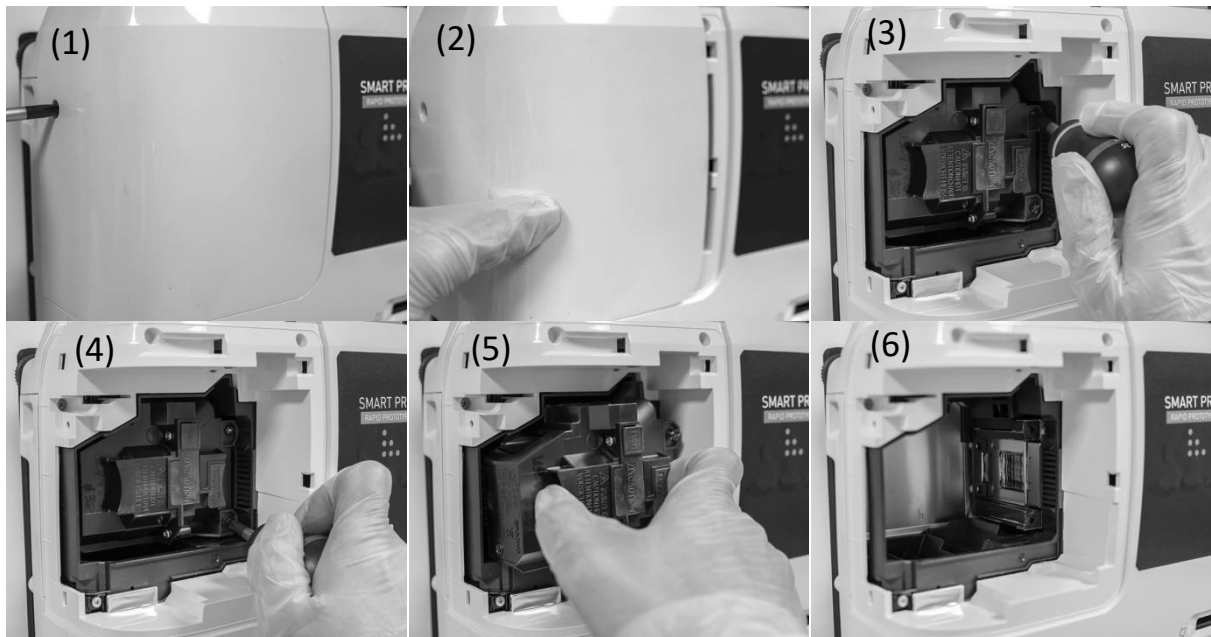

Figure 69 – main steps for lamp replacement
- Open the lamp cover (Figure 2) with a Phillips PH1 screwdriver (Figure 69 (1) and (2))
- Unscrew the lamp block (Figure 69 (3) and (4))
- Pull out the lamp block (Figure 69 (5) and (6))